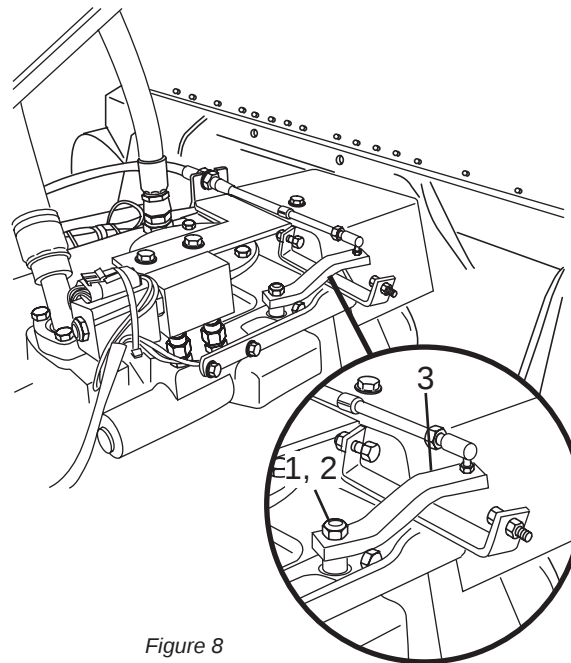

Figure 8
12. Scribe or draw a line across the top of the pump arm stud and pump control lever. This will be used as an alignment aid when reinstalling the pump control lever (Figure 8, Item 3).
13. Remove the nut and lock washer (Figure 8, Items 1 and 2), and remove the pump control lever (Figure 8, Item 3) from the valve.